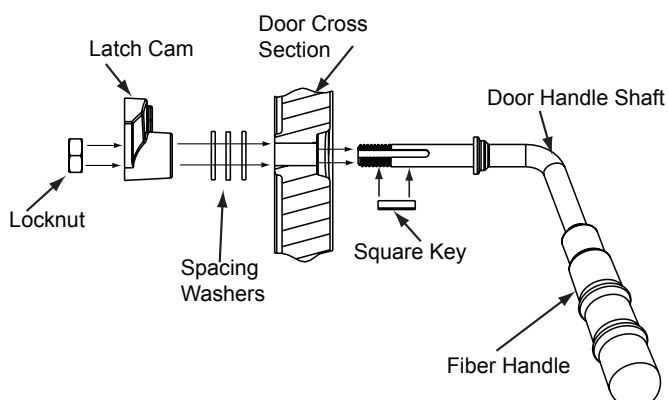

Figure 23.4 - Door Handle for Rectangular Door
7. Install handle turning in a counter-clockwise motion to desired location on door handle rod. **Figure 23.4.**